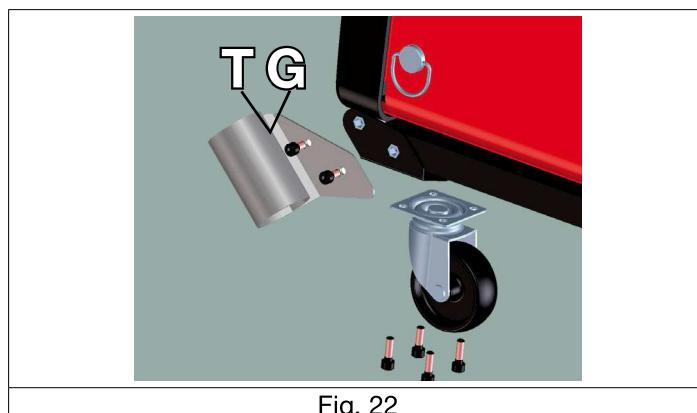

Fig. 22
Nel carrello trainafilo (G) montare la ruota anteriore destra con il porta torcia destro (TG) come da fig 22.
In the wire feed unit (G) fit the right front wheel with the right torch holder (TG) as shown in fig 22.